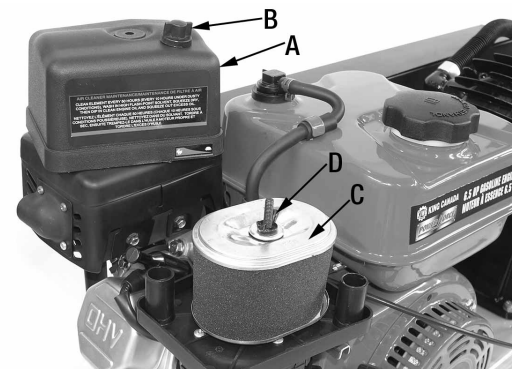
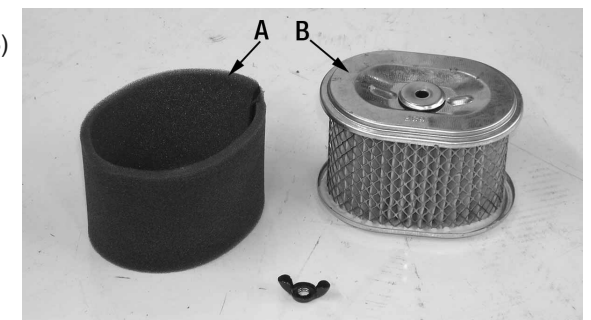

Figure 3
Figure 4
1) Remove the nut (B) Fig.3, lift to remove the air cleaner cover (A) as shown.
2) Remove the wing nut (D) Fig.3, lift and remove air filters (C) Fig.3 from its base. Remove the foam filter (A) Fig.4 from the paper filter (B), wash foam filter in kerosene, squeeze kerosene out, soak foam filter in engine oil and squeeze engine oil out.
3) In a well ventilated area, use pressurized air to blow dust out of the paper filter (B) from the side opposite the filter's normal air flow (clean side).